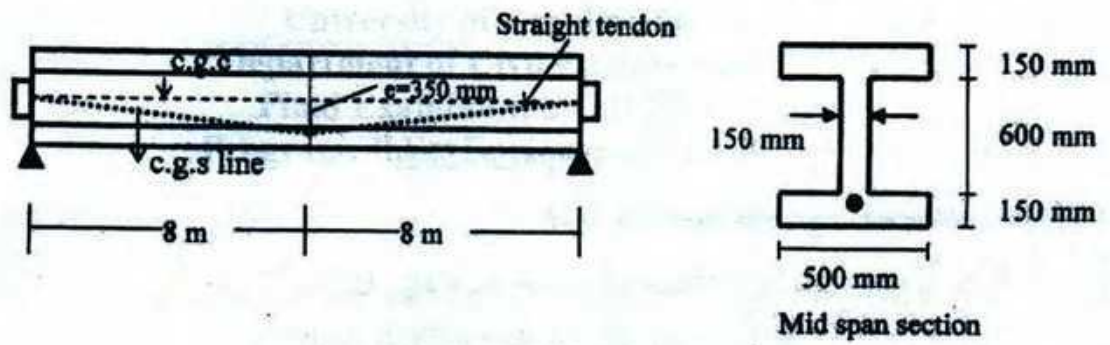

Figure: 4
5. (a) Calculate the mid-span deflection of a 16 m span I-beam as shown in Figure: 4 (20)